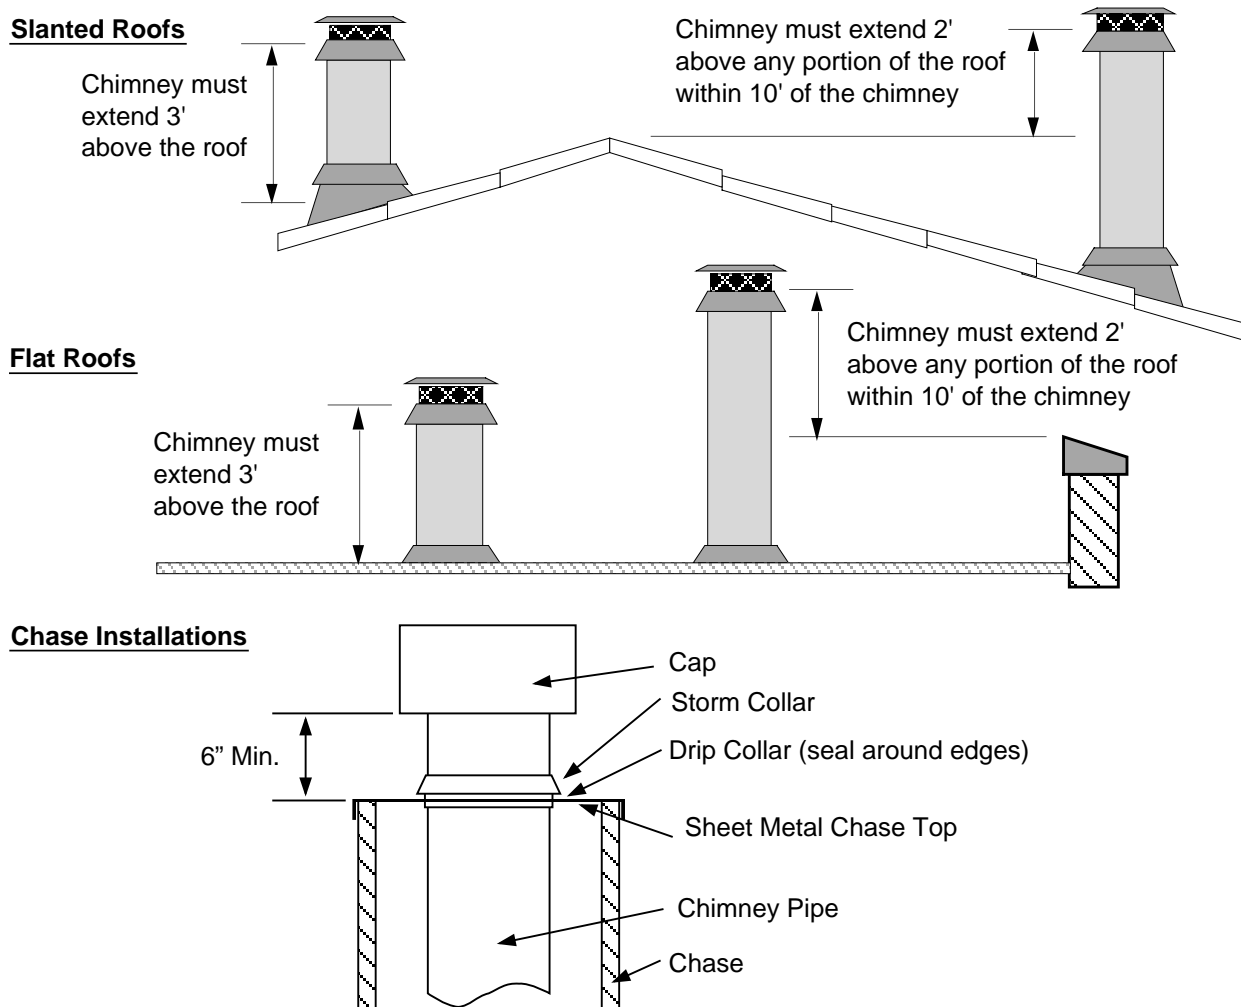

Figure 26
- The chimney must terminate a minimum 3' above the roof and 2' above any portion within 10' (measured horizontally – see Figure 26). This applies to flat and sloped roofs.